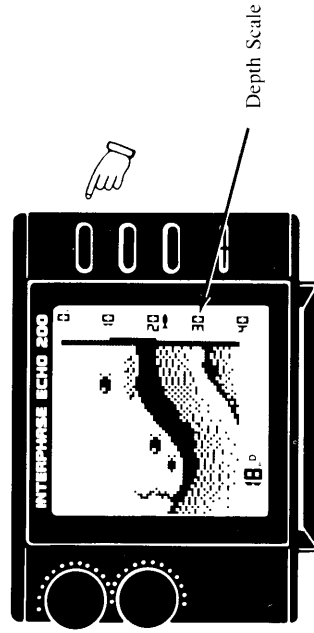

Figure 9—Changing the Depth Range
When the **Echo 200** is first turned on, the depth range is set at 0-40 feet, 0-12 meters, or 0-8 fathoms, depending on the display units chosen on the opening screen. To change the Depth Range, press either side of the button labeled "Depth". If you press the side with the up symbol (Λ) the depth range will decrease (more shallow) and if you press the side with the down symbol (V) the depth range will increase (deeper). Each time you press the button the **Echo 200** will "beep" and you can see the new depth scale numbers on the right side of the LCD display. See *Figure 9* below: